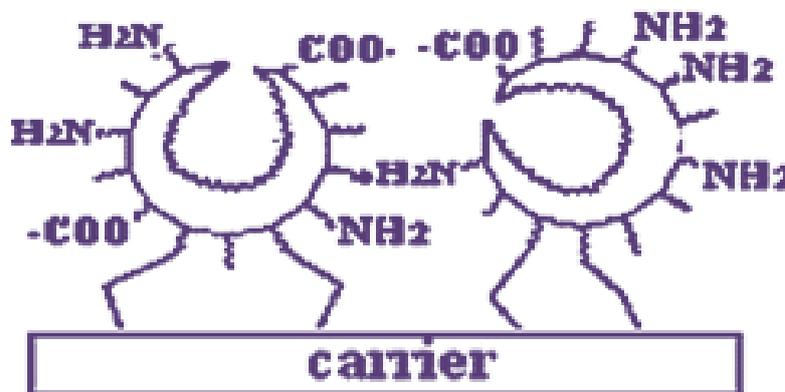

Fig. 8.5: Immobilization of enzyme by covalent attachment
- **Covalent attachment** : A large number of chemical reactions have been used for covalent binding of enzyme by way their non-essential functional groups to inorganic carriers (ceramics, glass, iron), natural polymers (sepharose and cellulose) and synthetic polymers (nylon and polyacrylamide) (Fig.8.5).